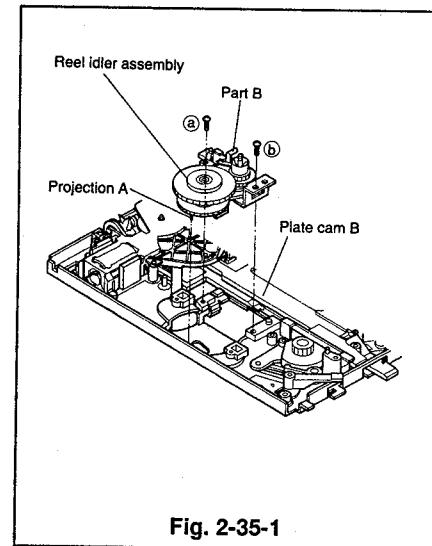

Fig. 2-35-1
- ① Insert the part B of the reel idler assembly under the plate cam B as shown in Fig. 2-35-1 and insure projection A enters the hole on the main plate. Position the reel idler assembly so that its screw holes are aligned and secure it with the two screws (Ⓐ and Ⓠ).